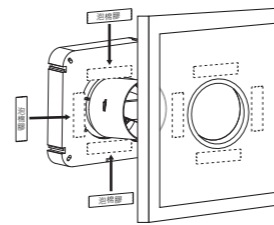
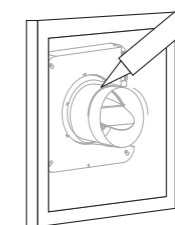

Figure 6
Figure 7
- After applying foam glue to the body(as shown in Figure 6), fix it on to the force glass. Ensure the edge between the pipe and the glass is sealed and airtight with silicon.(as shown in Figure 7)